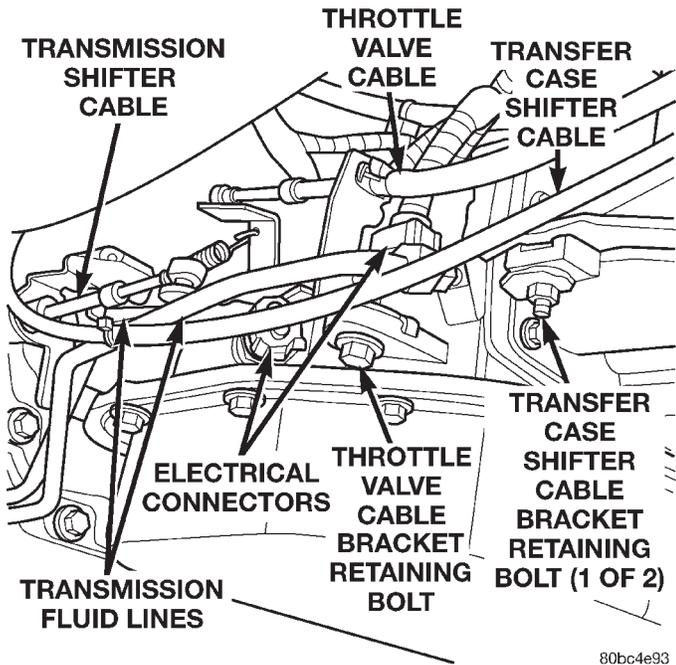

Fig. 32 Shift Cable at Transmission
- (1) Place the transmission gear selector in the "PARK" position.
- (2) Raise the vehicle on a hoist.
- (3) Disconnect the shift cable eyelet from the transmission shift lever (Fig. 32).